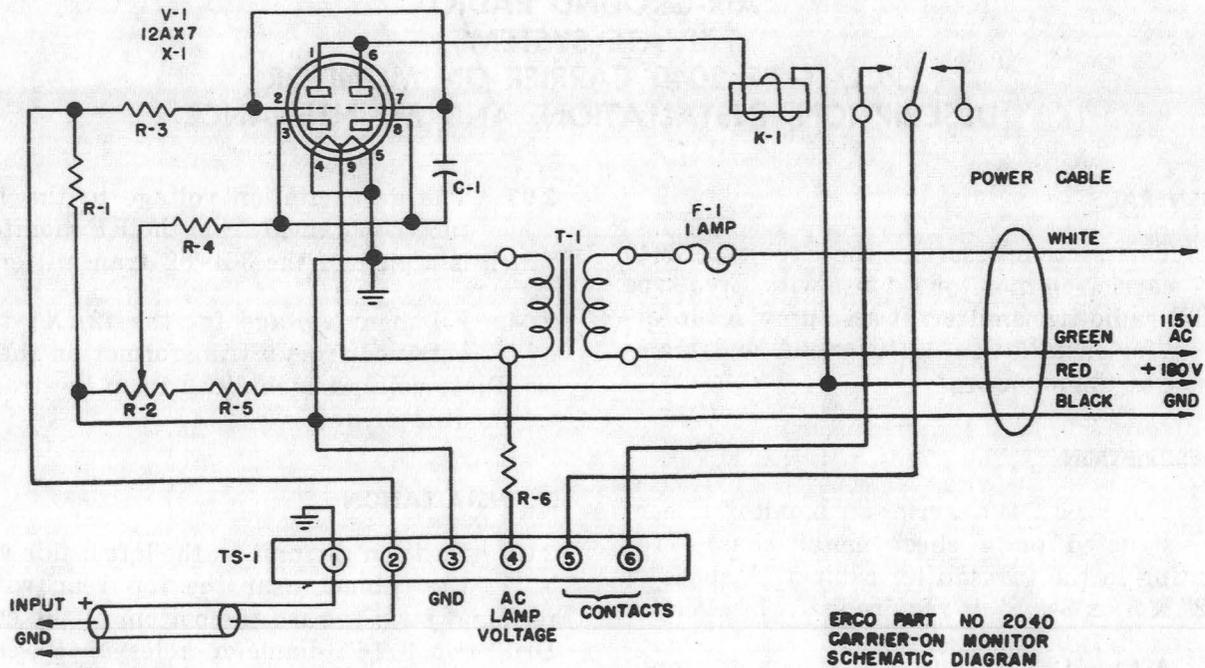

Fig. 2
2.02 A type 12AX7 tube is used as a dc amplifier to operate relay K-1 when a positive voltage derived from and of proper value in relation to the RF output of the transmitter is applied to terminals 1 and 2 (Fig. 2). Potentiometer R-2 controls the grid bias of the 12AX7 tube, which in turn determines the proper value of the positive input voltage. When K-1 is operated, a closed circuit appears across terminals 5 and 6 which are used to control a lamp at the control location to indicate when the RF output from the transmitter is within usable limits. Terminal 4 supplies power to operate a 6-8 volt 150 ma lamp.